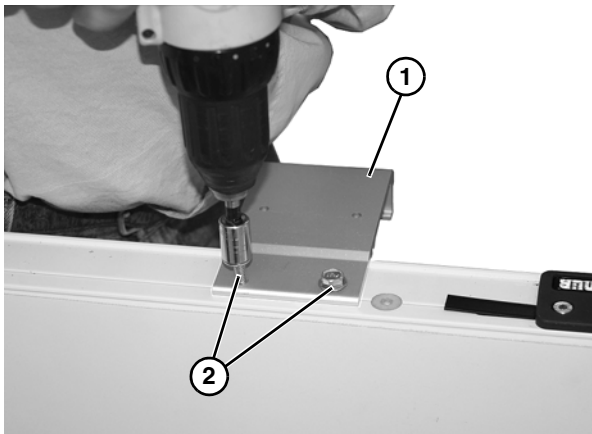

Figure 21
3. Position and hold bracket (**Figure 21, item 1**) to side rail. With a standard M6-1.0 or 1/4-20 screw, install screws (**Figure 21, item 2**) with cordless drill or equivalent. Do not fully tighten with drill.